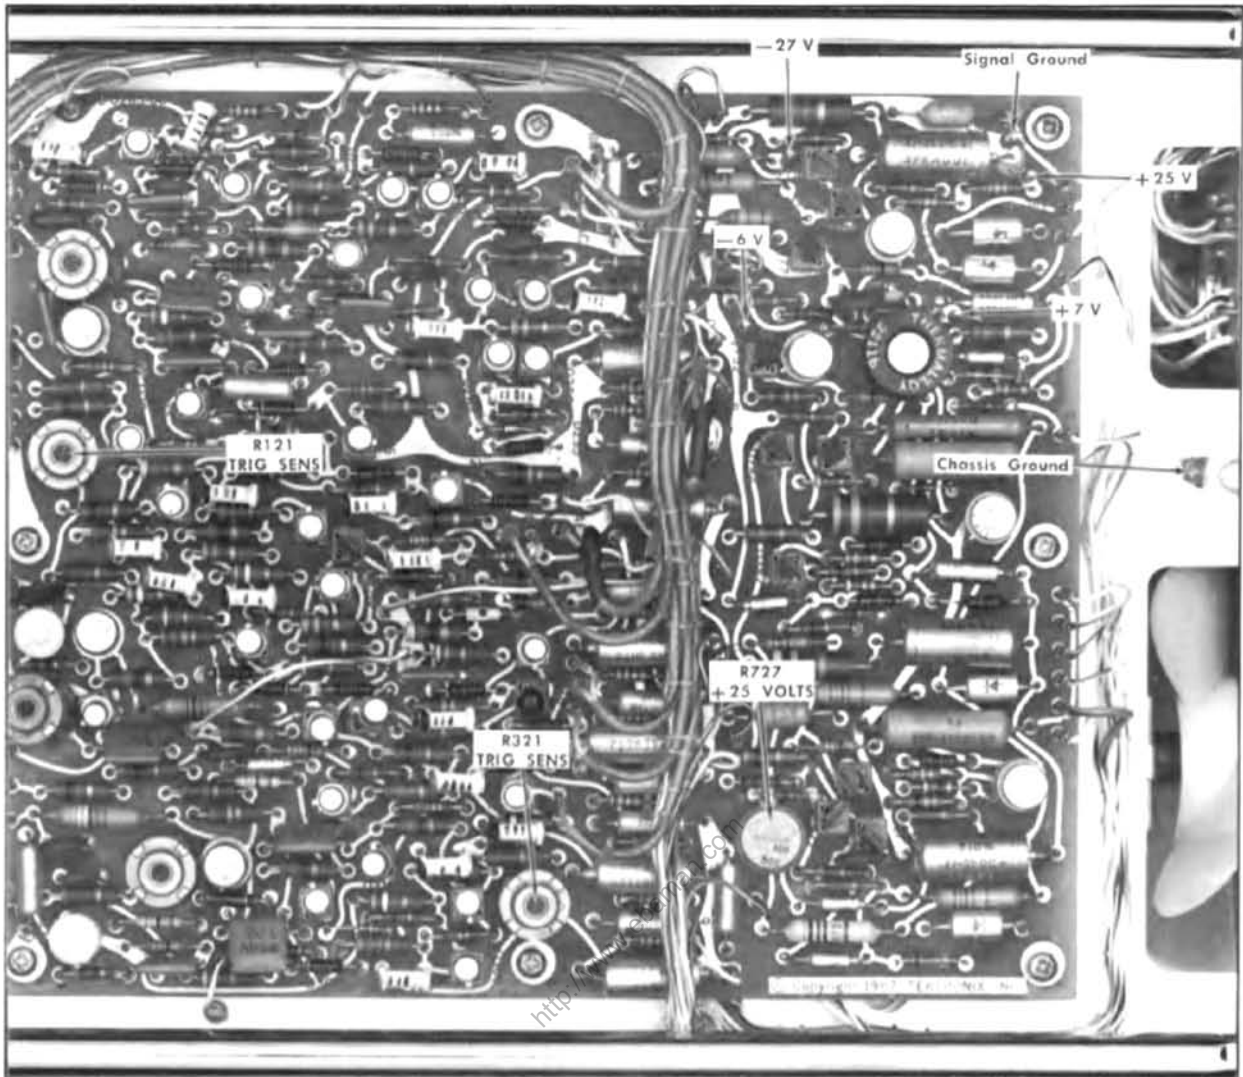

Fig. 5-3. Top circuit board: Location of adjustments and test points in steps 1, 2 and 6.
- c. Connect the negative lead of the DC voltmeter to the signal ground test point (see Fig. 5-3) and the positive lead to the +25-V test point.
- e. ADJUST—R727, +25-VOLTS adjustment, (see Fig. 5-3) if the voltage is not correct.
a. Move the positive lead of the DC voltmeter to the +7-V point (see Fig. 5-3).
d. Move the negative lead to the -27-V test point (see Fig. 5-3).
f. Move the negative lead to the -6-V test point (see Fig. 5-3).
h. Move the negative lead to the chassis ground test point (see Fig. 5-3).
Voltage Test Point (Fig. 5-3)	Ripple (60 Hz or 120 Hz Component)